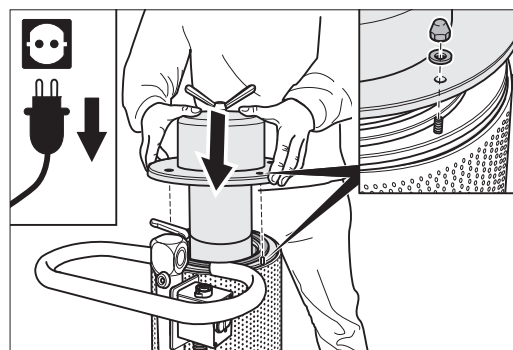

Fig. 31 Replace the cover and **loosely** replace the cap nuts!
- 4 Put the washers on the screws which project out of the cover and put the cap nuts back on. Only place these on **loosely**, **don't tighten** them (Fig. 31).